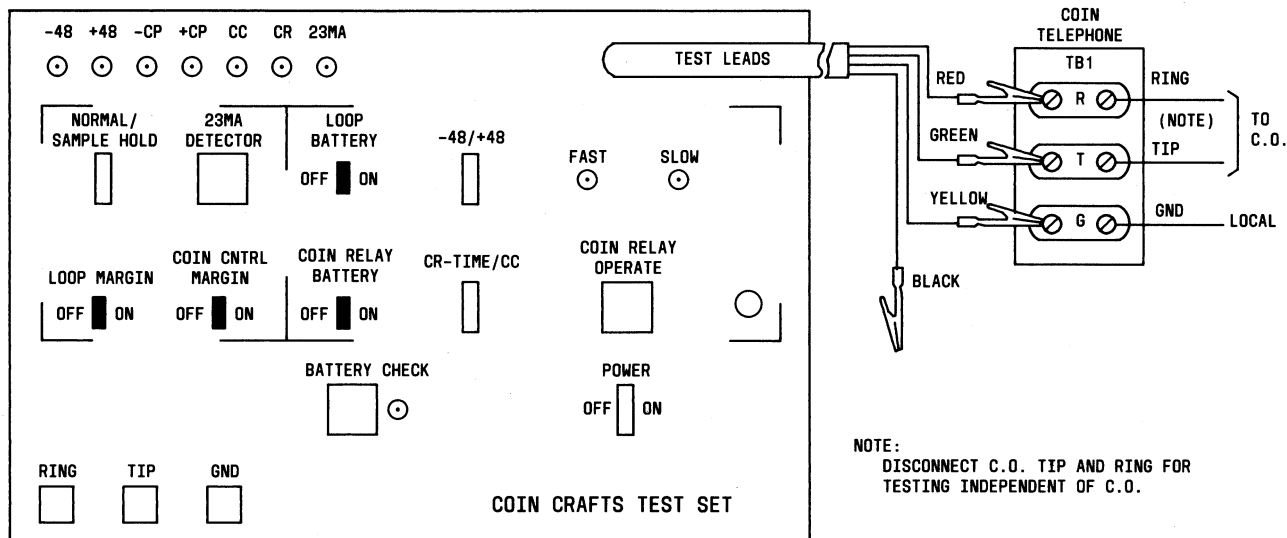

Fig. 2—Test Lead Set-up for All Tests Except Coin Relay Timing
- (1) **23MA Test**—The 23MA current detector circuit simulates a 350-ohm load to the CO and will light a LED indicating when a current of 23MA or greater is flowing in the loop. This represents a worst case telephone set resistance which could be encountered in the field.
- (b) Connect test set leads to TB-1 of coin telephone set per Fig. 2:
- (b) Connect test set leads per Fig. 2 and take coin telephone handset off-hook:
- (3) **Coin Control Margin Test**—The coin control margin test checks for marginal conditions on the tip to ground coin control path. A failure on this test indicates a borderline circuit resistance and the telephone set may experience erratic trouble or failures.
- (b) Connect test set leads per Fig. 2 and take telephone handset off-hook:
- (4) **Foreign EMF Test**—This is a special use test where the test desk may not be available but you do have access to service on the CO main distributing frame. It will show if there is induced or crossed battery and ground on the pair but will not indicate trouble on individual conductors.
- (b) Connect test set leads per Fig. 2:
**3.04 The CO Sequence Test:** Tests the interaction between the coin telephone set and the CO equipment. During these tests, LEDs other than those shown may light. These others may be ignored. Prepare coin telephone set as follows and proceed as in (1) or (2).
- Connect test set leads to TB-1 of coin telephone set per Fig. 2.
- (1) Set coin telephone and coin crafts' test set up as follows:
- (c) Connect test set leads per Fig. 2.
- (j) Proceed as in (2), (3), (4), or (5).
- (2) COIN FIRST OPERATION WITH 1A, 2A, 1C OR 2C COIN TELEPHONES